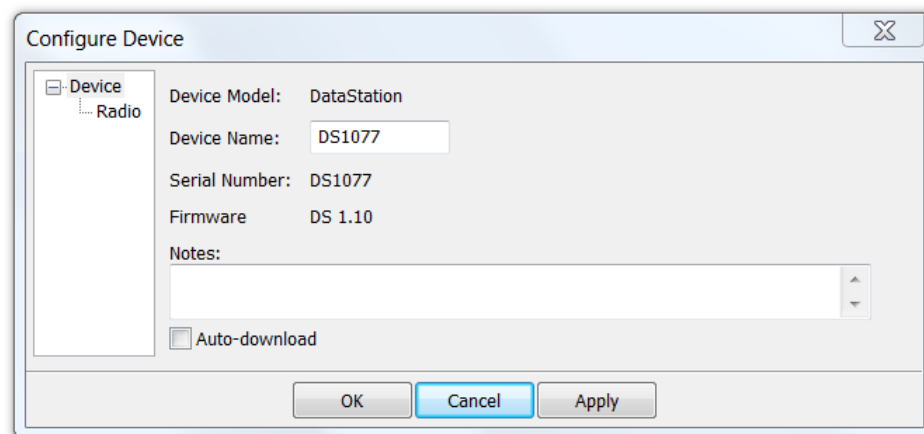

Figure 2. The Device Setup screen.
- Select DataStation in the device directory and click on "Configure" on the toolbar or from the Setup menu in DataTrac 3 to enter Device Setup (Figure 2).
Data can also be automatically downloaded from DataStation to DataTrac 3 by checking the "Auto-download" box in the "Device Setup" window (Figure 2). However, DataTrac 3 must be running and the DataStation connected to the computer through a COM port for this to work.